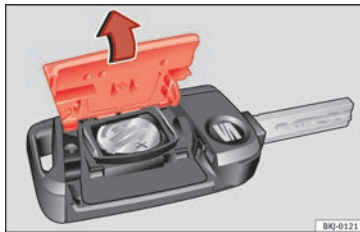

Fig. 138 Vehicle key: opening the battery compartment.
- Remove the cover from the back of the vehicle key **» Fig. 138** in the direction of the arrow **» ①.**
- Fit the cover as shown **» Fig. 138**, pressing it onto the vehicle key casing in the opposite direction to that shown by the arrow until it clicks into place.